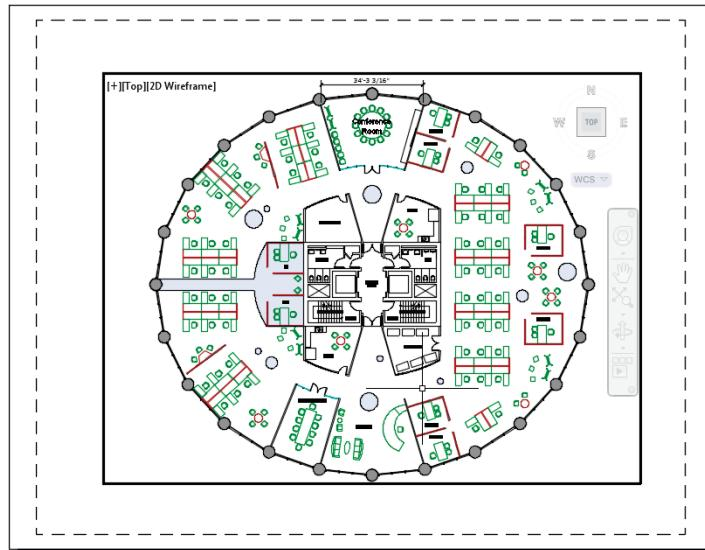

FIGURE 13.14 Model space active inside a floating viewport
- Double-click anywhere inside the viewport on Layout1 to switch into model space. The viewport's frame highlights with a thicker representation when displaying model space (see Figure 13.14). Move the cursor inside the viewport, and observe that the crosshair cursor is available only within the viewport.